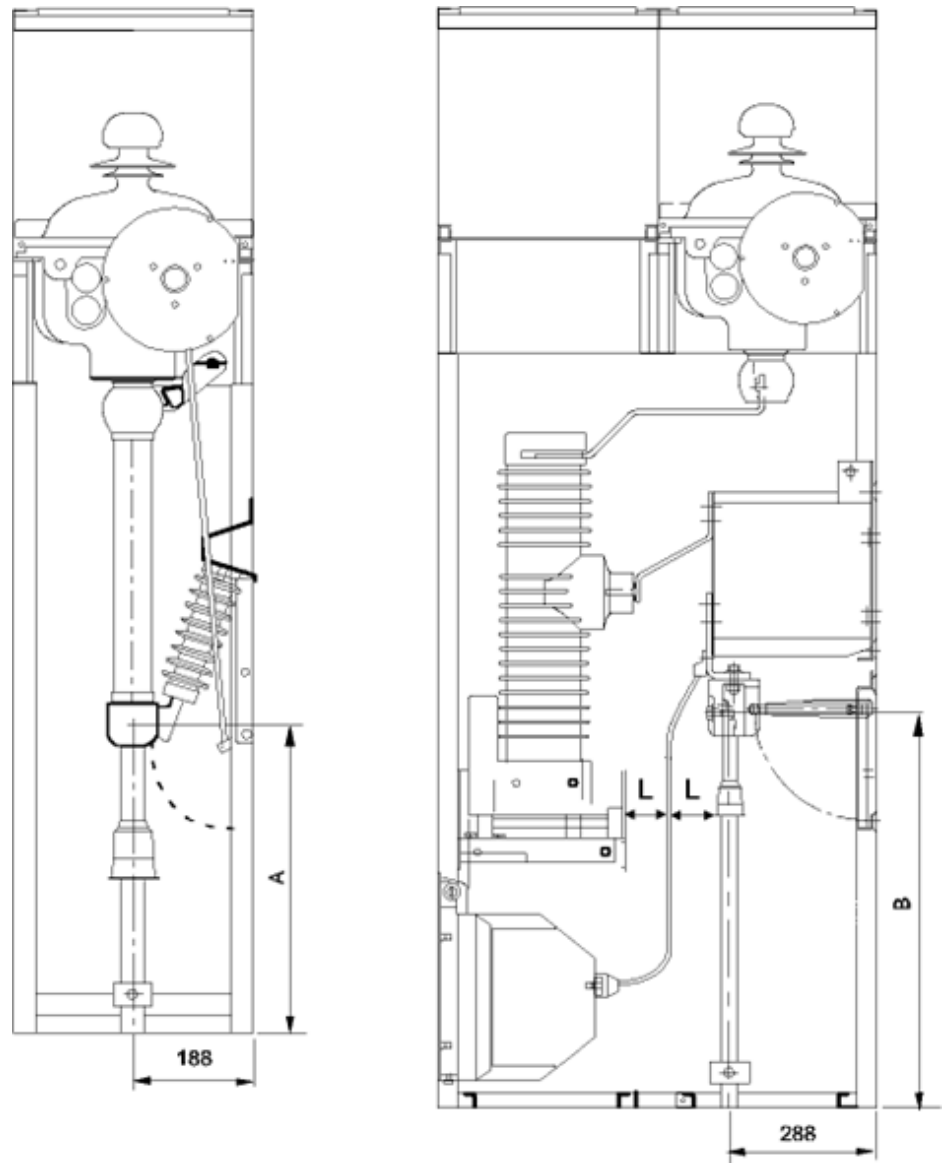

Figure 4.16
The clearance (L) of the VT primary connection cable should be at least 80 mm, see the Figure 4.16.